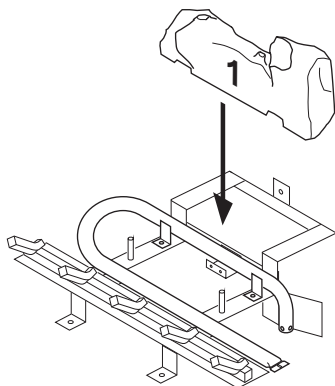

Figure 26 - Installing Log No. 1
It is very important to install these logs exactly as instructed in Figures 26 through 30. Do not modify logs. Only use logs supplied with freestanding burner system. Do not use if any log(s) are broken (see Replacement Parts, page 29).
2. Place log #1 (back log) on top of grate. Make sure notches in the bottom of log fit over the grate (see Figure 26).